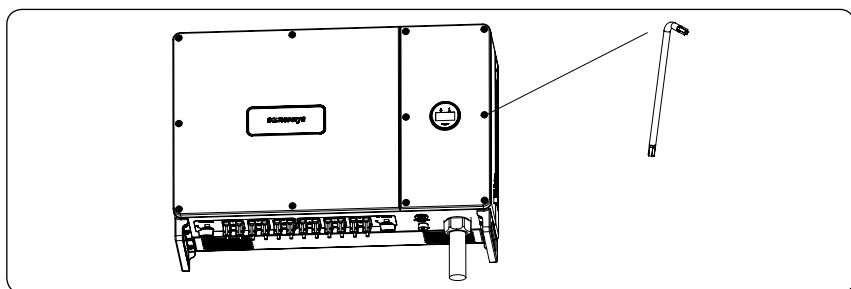

Figure 4-16
4) Put back the right roof cover and lock with its original screws. As shown in Figure 4-16: